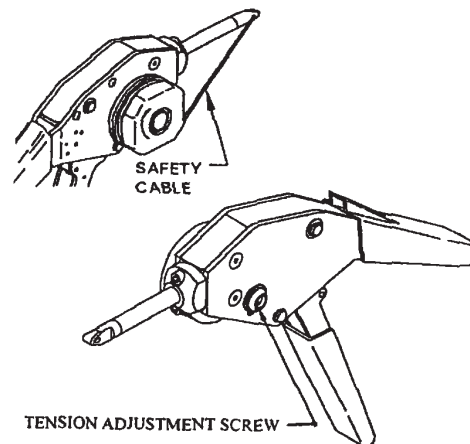

Figure 7-24. Adjustable Tension Safety Cable Tool
b. Adjustable Tension Tool. (Figure 7-24.) Thread the safety cable through the fastener, ferrule, and tool nose in the same way as with other models. Wrap the cable one full revolution (clockwise) around the tension wheel, and with slight pressure applied by pulling the cable, secure the cable into the slot. Rotate the tension knob until several clicks are heard and felt. If additional tension is required, adjustment can be made with the tension adjuster on the opposite side of the tool.